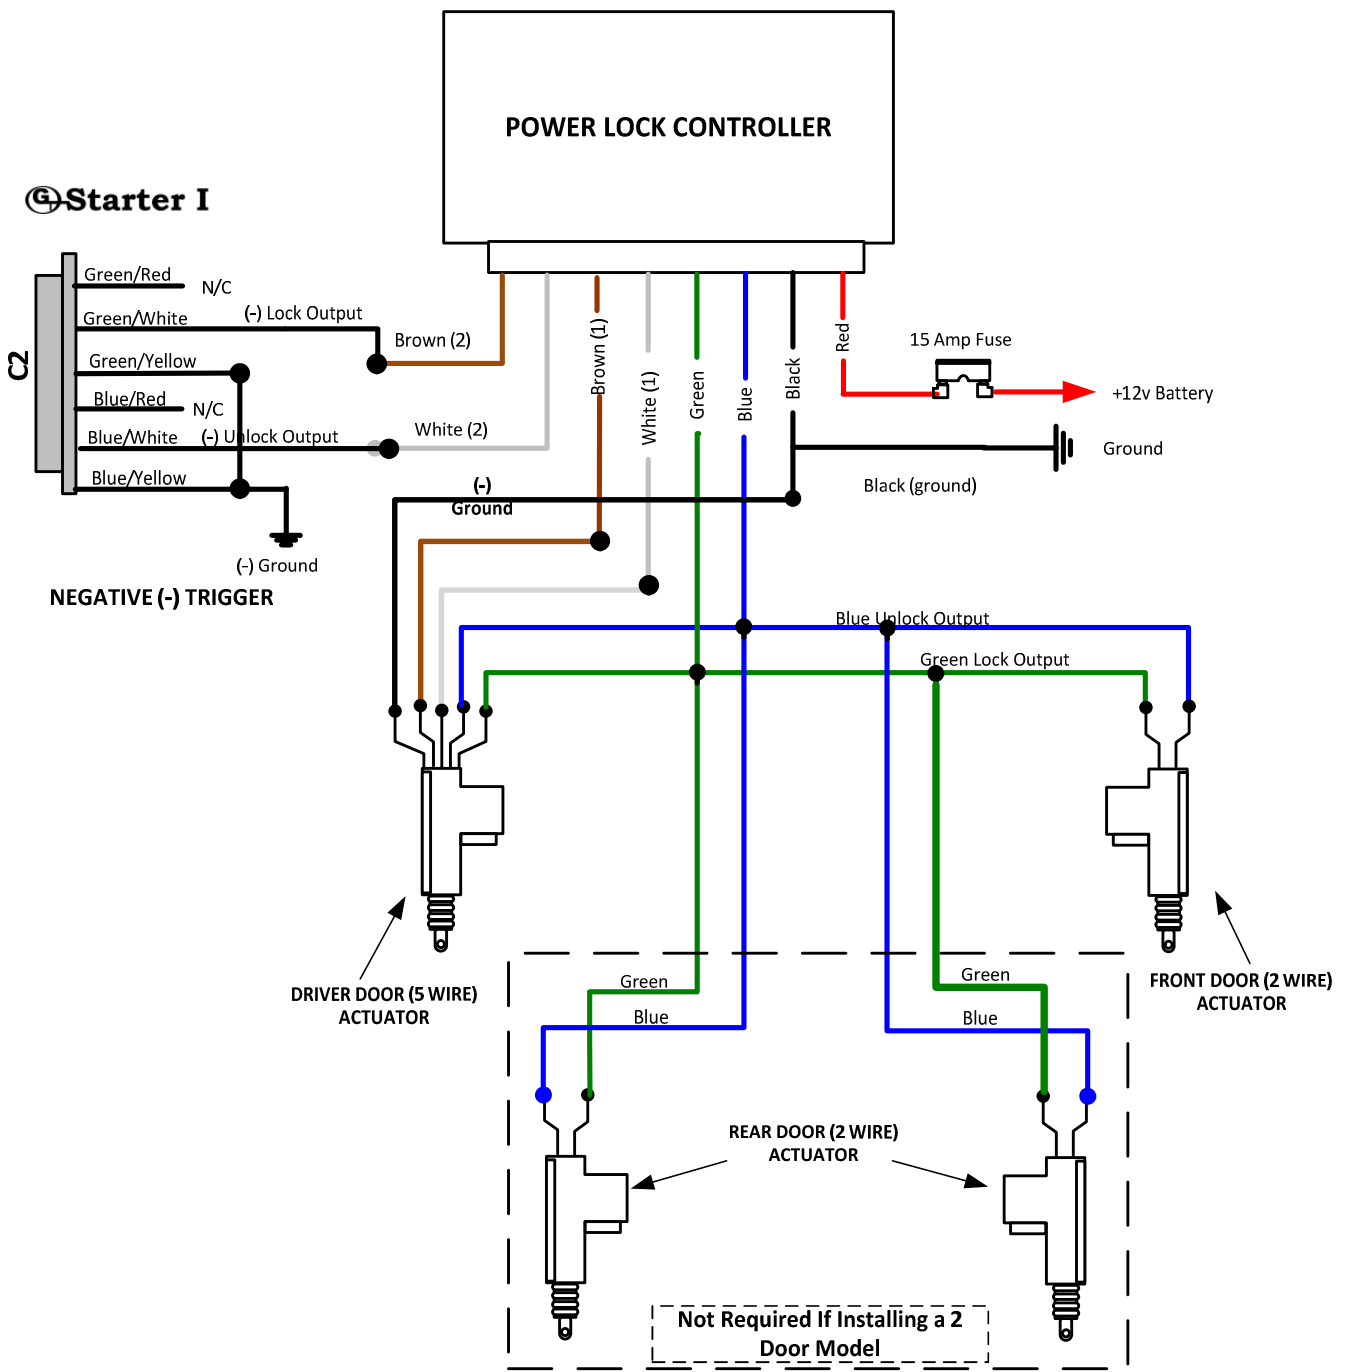

Fig. 5 WIRING DIAGRAM
3. When connecting the front door (5-wire) actuator and the wire harness together, make sure to connect the same color wires together. See Fig 5.
- b.) Make sure the WHITE, BROWN, BLUE & GREEN wires of the actuator, wire harness and control module are connected with the same color wires. See Fig 5.